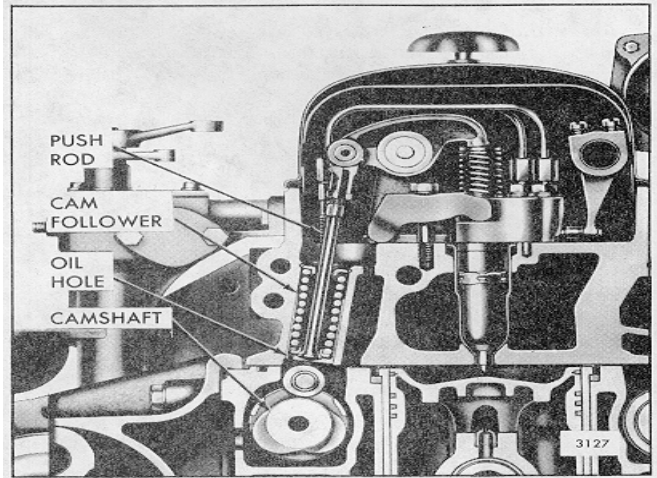

Fig. 10 - Installation of Cam Followers
1. Note the oil hole in the bottom of the cam follower. With the oil hole directed away from the exhaust valves (Fig. 10), slide the cam follower in position in the cylinder head.
3. Note the oil hole in the bottom of the cam follower. With the oil hole directed away from the exhaust valves (Fig. 10), slide the cam follower in position from the bottom of the head.